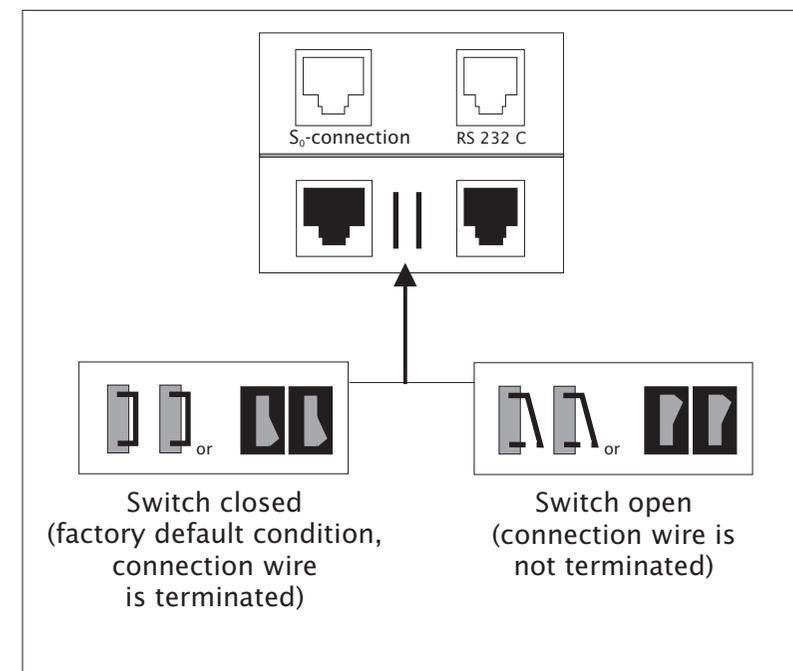
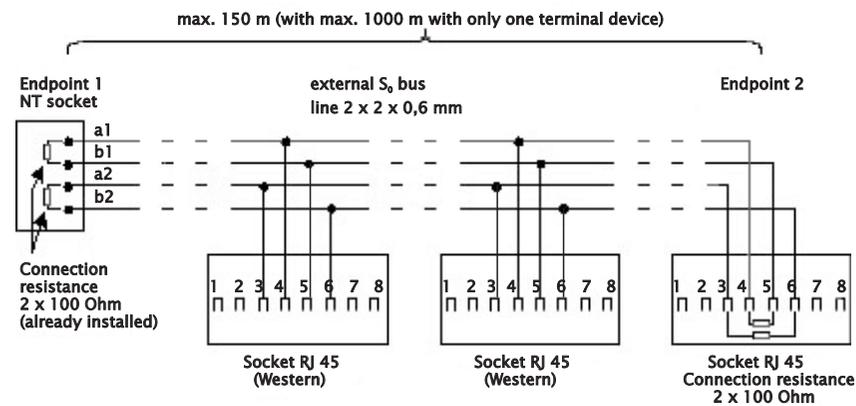

Fig. 5-6: Terminating resistors for the connection wire
Fig. 5-7: ISDN line (S₀ bus) with terminating resistors
The two switches next to the socket for the external S_0 interface (see Fig. 5-6) connect the terminating resistors for the connection wires. Both switches must be open or closed at the same time. When the unit is delivered they are closed, as the telephone unit is prepared for a single connection point.
Fig. 5-7 shows the basic layout of an ISDN line for the multipoint interface. The two pairs of leads (each with 100 Ohm) must be connected to the connection endpoints. These resistors are already built into the Network Terminator (NT) (endpoint 1).
- You can install a junction box at the end of the line with integrated terminating resistors. The switches for the terminating resistors of the corresponding external connection (see Fig. 5-6) must be open in this case.
- You can install two 100-Ohm resistors into the last junction box as shown in Fig. 5-7. The switches for the terminating resistors of the corresponding external connection (see Fig. 5-6) must also be open.
- You can connect the unit at the last junction box of the ISDN line. In this case, the switches for the terminating resistors of the corresponding external connection (see Fig. 5-6) must be closed.